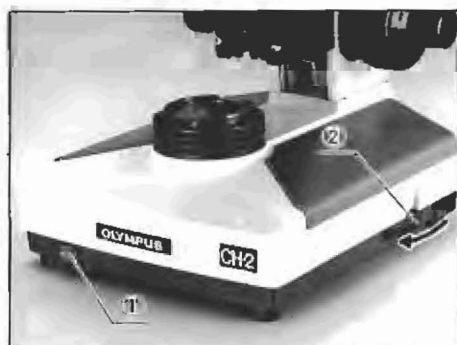

Fig. 14
- 1) Turn the power switch (1) ON and adjust the voltage control dial (2) until proper intensity is obtained. (Fig. 14)
- 2) Rotate the dial (2) toward the operator (clockwise) to darken intensity (in the direction of the arrow), or reverse the dial (counterclockwise) to brighten.